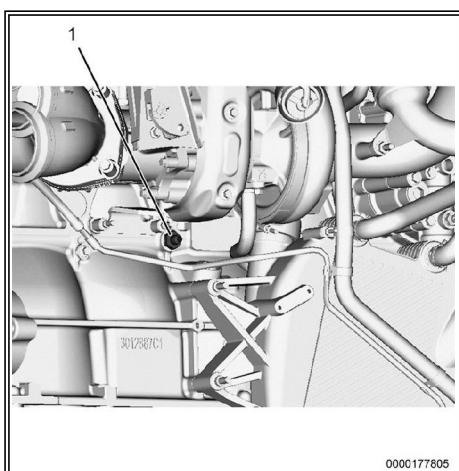

Figure 2: Turbocharger Oil Supply Tube Male Stud Fitting.
10. Remove and discard turbocharger oil supply tube male stud fitting (Figure 2, Item 1).